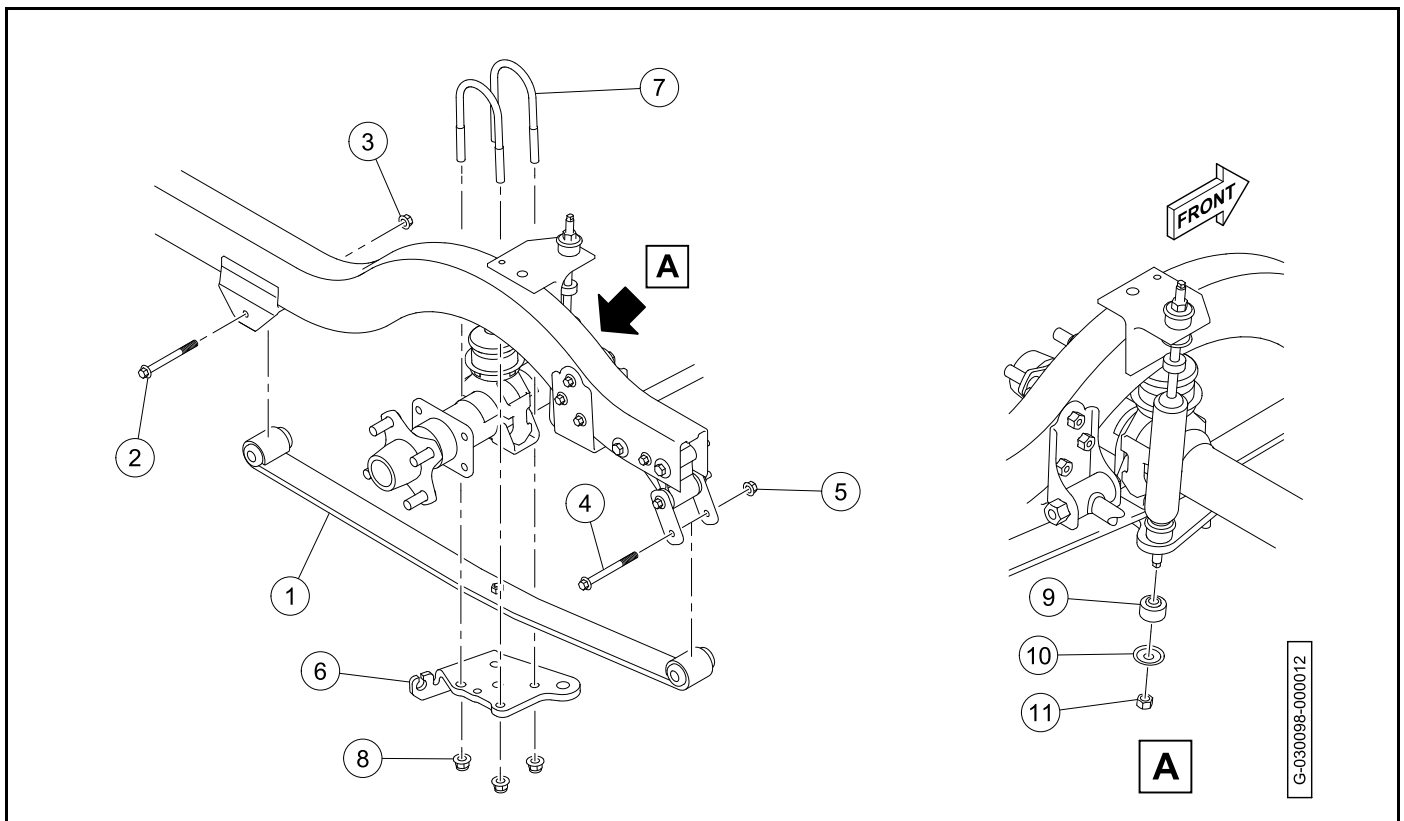

Figure 9-15 Leaf Spring Installation (Four-Passenger - Heavy Duty With Panhard)
1. Install the front of the leaf spring (1) onto the vehicle frame (Figure 9-15).